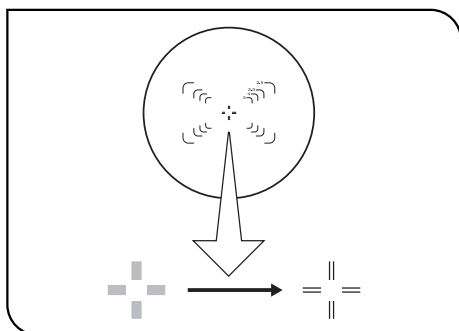

Fig. 72
5 Adjusting the Focus (Figs. 72 & 73)
☉ The finder eyepieces show four photo masks. The numbers given to the masks correspond to the magnifications of the photo eyepiece. (Fig. 72)
1. Adjust the diopter of the eyepieces and focus on the photo masks in advance. Focus so that the double crosslines are sharply visible as two distinct lines. (Fig. 72)